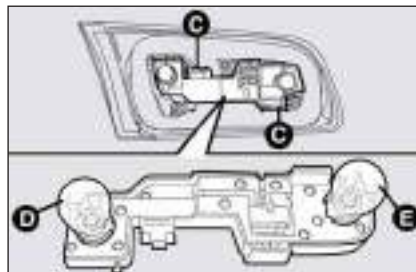

fig. 31
- push the bulb holder side tabs **C**-fig. 31 inwards to remove it;
The bulbs are arranged inside the light unit as follows (**fig. 31**):